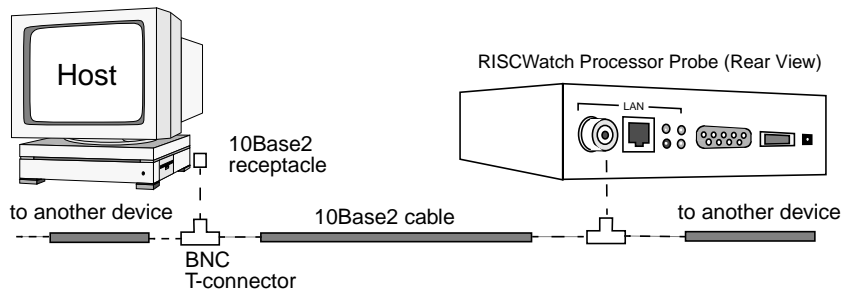

Figure 2-5. 10Base2 LAN Connection
- a. For customers with no current Ethernet network, a point-to-point connection should be configured. A 10Base2 connection between a host machine and the RISCWatch processor probe requires a pair of BNC T-connectors and 50-ohm terminators, plus a short length of 10Base2 ThinLAN cable, as shown in Figure 2-5.
- b. For a 10Base2 connection to a site-wide LAN with multiple devices, the terminators would not be used, as shown in Figure 2-5.
d. Figure 2-5 shows a 10BaseT Ethernet connection using a hub: